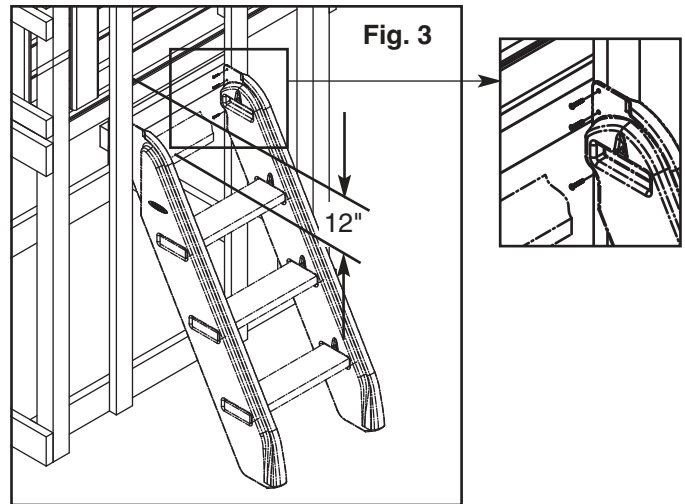

Fig. 3
4. Position the Climbing Steps Assembly into the 21½" opening of your play deck so that the top surface of the top step is 12" from the top surface of your play deck (48" from the ground). Secure the Climbing Step Assembly to the play deck using three #14 x 1¼" pan head screws on each side as shown. (Fig. 3)